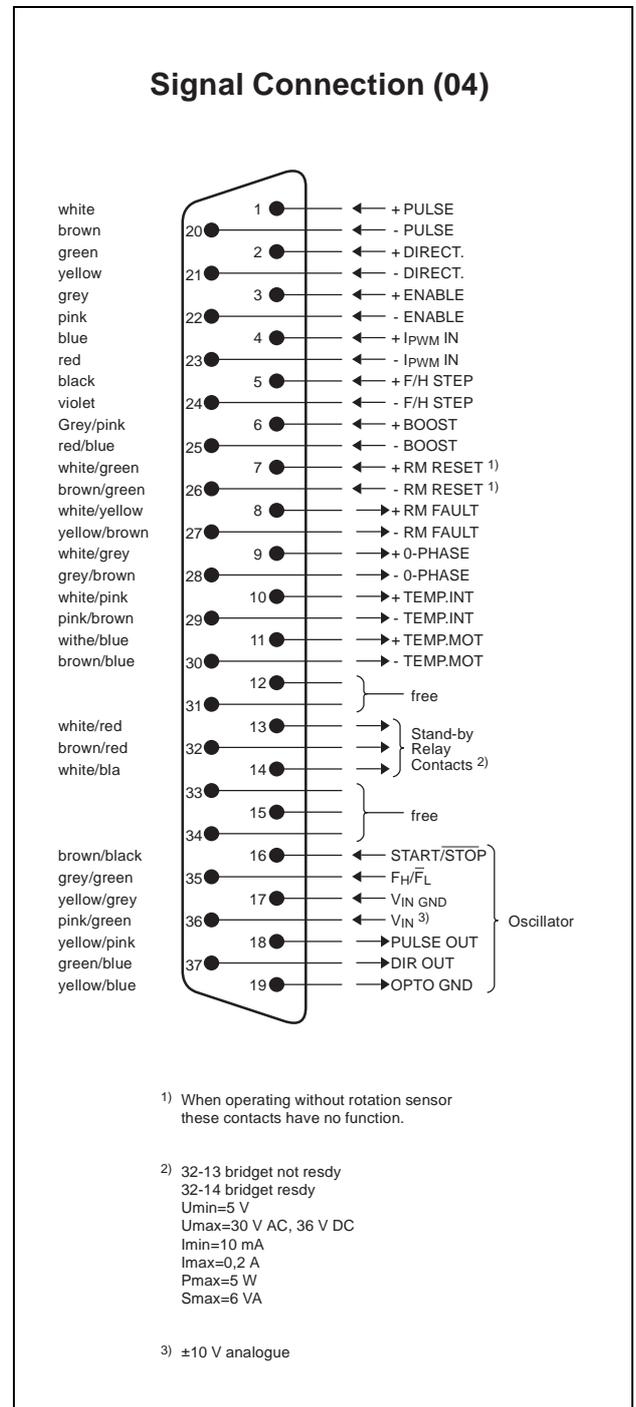

Figure 2-6 Wiring the Signal Socket
1. Twist the wires of the signal cables in pairs and solder them onto the 37 pins Sub-D-socket, according to figure 2-6.
3. Connect frequency counter to signal plug 04 (figure 2-6) connect to pins: